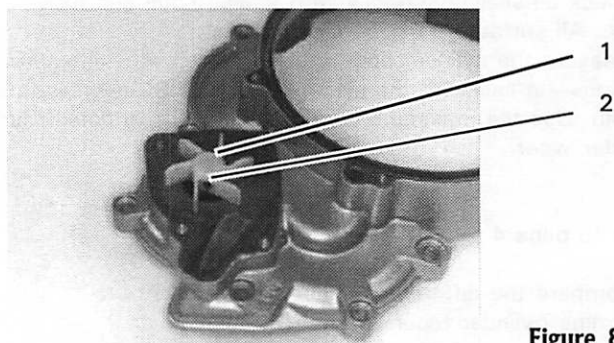

Figure 82
1. Remove the slotted spring pin (1, Figure 82) with a punch, then remove the impeller (2, Figure 82).
7. Install the impeller (2, Figure 82) over the pump shaft, then secure the impeller with the slotted spring pin (1, Figure 82).